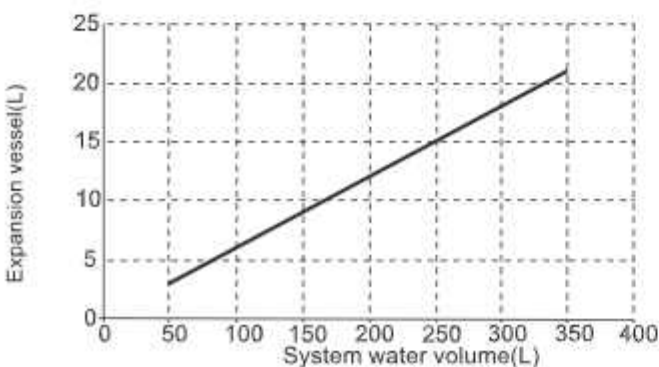

figure 1
- If no glycol is in the system, in case of a power supply failure or pump operating failure, drain all the water system if the water temperature is below 0°C in the cold winter (as suggested in the figure below figure 1).